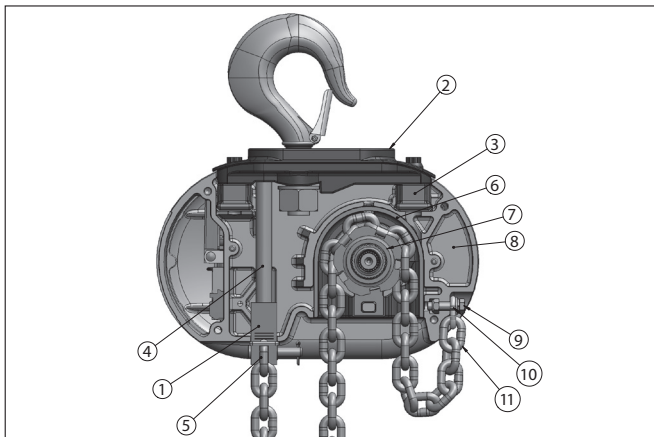

Figure 7. Attaching Load Chain Double Reeved Models
Remove the hook suspension, (2) suspension screws, (1) dead end pin, (1) washer, and (1) cotter pin from the packaging. It should be noted that the suspension includes a dead end bolt and block for supporting the dead end of the load chain as shown in Figure 7.
Place the suspension assembly into the recess on top of the hoist. The dead end block should project through the bottom of the hoist with the pin hole and slot aligned to the underside of the hoist as shown in Figure 7. If these are not aligned as shown, lift the head of the bolt from the hex recess in the adapter and turn the bolt and block assembly and reseal the bolt head to obtain the proper alignment. Do not change the position of the dead end block on the bolt to attain this alignment.
4. Press(UP) control and raise the lower hook until top of hook block is about one foot (305 mm) below the hoist.
7. Press (DOWN) control and cautiously lower hook until lower limit switch stops the downward motion From 7 to 11 chain links (depending on hoist model) should be between the loose end link and the hoist entry. See Figure 7.